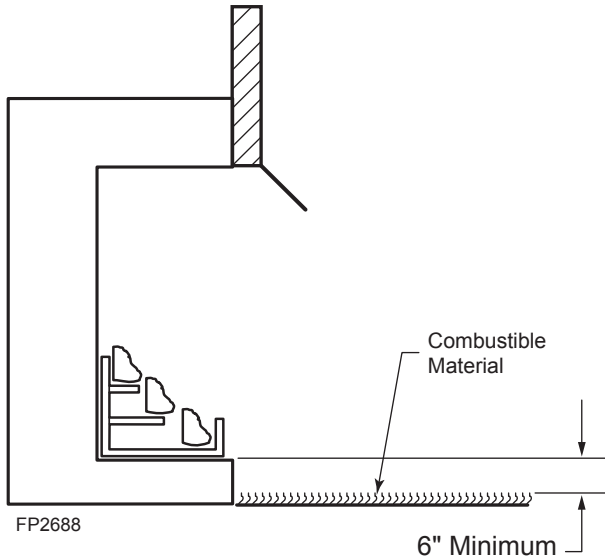

Figure 5 -
4. **Floor clearance:** This inner chamber firebox floor must be installed at least 6" above any combustible flooring material, such as carpeting or asphalt tile, which is closer than 14" to the base of the firebox. *Figure 5*